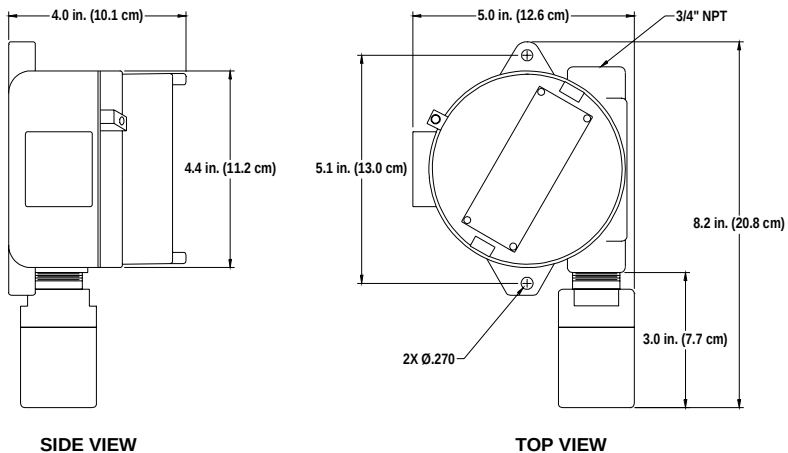

Figure 2-1 Outline and Mounting Dimensions
2. Secure the enclosure to a vertical surface using 3/16– inch bolts or screws through the mounting lugs (refer to Figure 2-1).